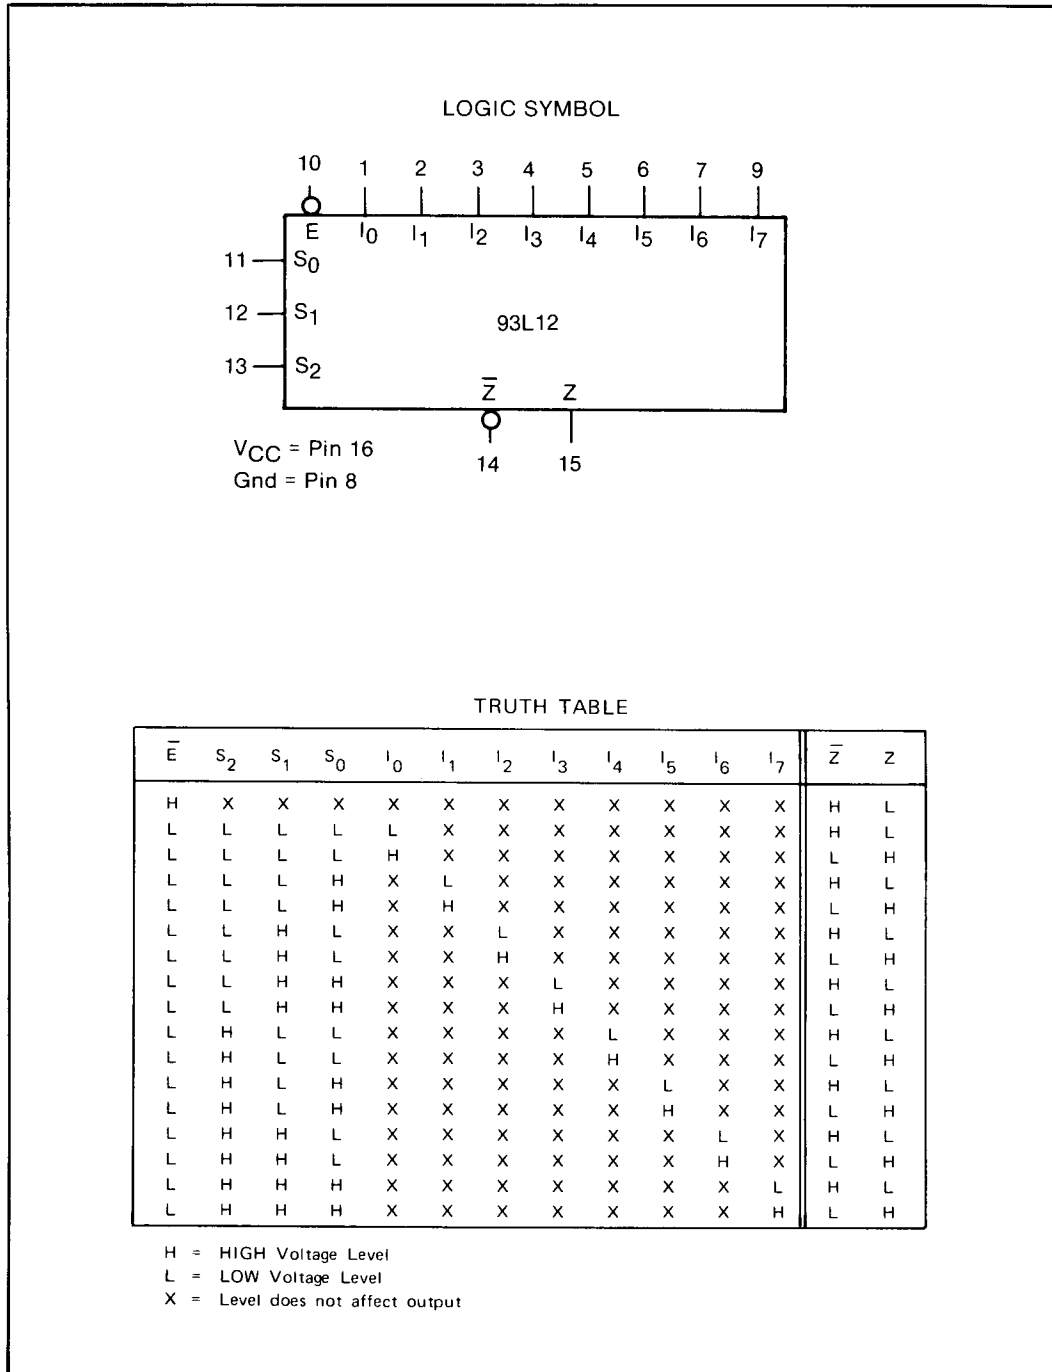

Figure 4-7. Eight Input Multiplexer A5U8
4-41. The eight input multiplexer, shown in Figure 4-7, provides the ability to select one bit of data from up to eight sources. The circuit is a logical implementation of a single-pole, eight-position switch with the switch position controlled by the state of three select inputs, S_0 , S_1 , and S_2 . Both assertion and negation outputs are provided. The enable input (E) is active low.